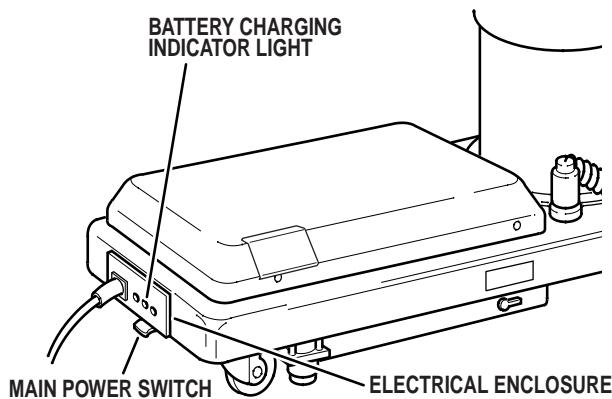
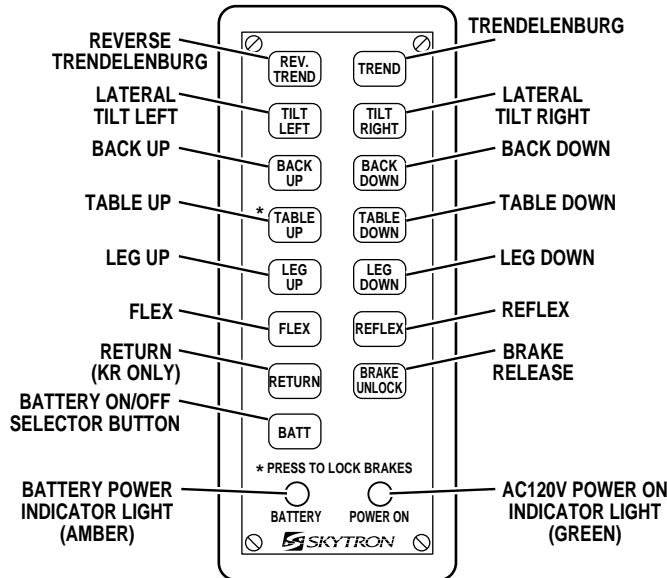

Figure 2-1. Main Power Switch
Figure 2-2. Pendant Control
b. Depress the main power ON/OFF switch located on the electrical enclosure. See figure 2-1. The green AC 120V, Power-On indicator light located in the lower right corner of the pendant control will illuminate. See figure 2-2.
a. Make sure the green, AC 120V, Power-On indicator light, on the hand-held pendant control, is OFF. See figure 2-2. If the indicator light is ON, depress the main power ON/OFF switch, located on the electrical enclosure to turn AC120V operation OFF.